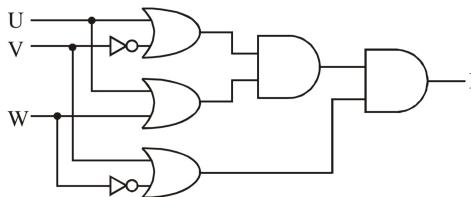

Fig. 3.3
10. Write the Boolean expression for the result of the logic circuit as shown in Fig. 3.3